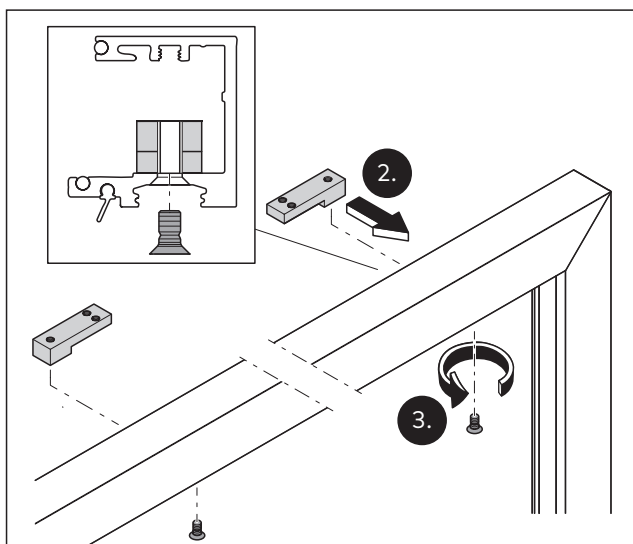

Fig. 40 Mount the brackets for the ITS 96's slide rail in the horizontal cover profile for the door frame
2. Slide the mounting brackets for the slide rail into the cover profile for the frame (Fig. 40).